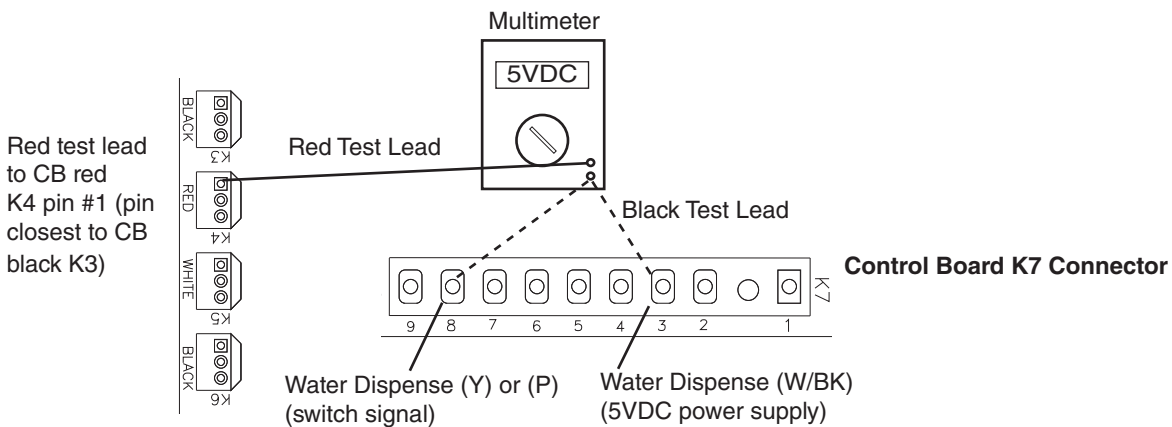

Fig. 3
(3) **5VDC CB K7 Connector:** See Figs. 3, 4, 5, and 6.